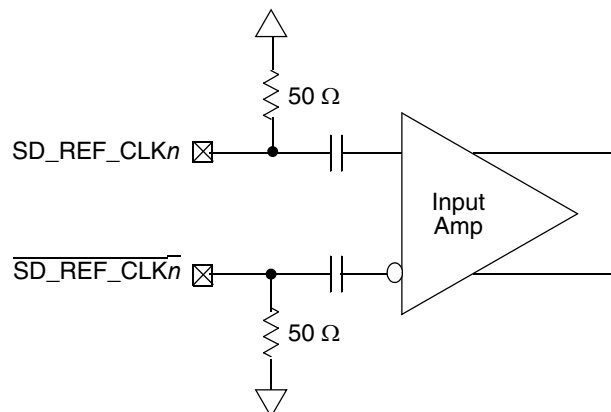

Figure 37. Receiver of SerDes Reference Clocks
- The SD_REF_CLKn and $\overline{SD_REF_CLKn}$ are internally AC-coupled differential inputs as shown in Figure 37. Each differential clock input (SD_REF_CLKn or $\overline{SD_REF_CLKn}$) has on-chip 50- Ω termination to SGND followed by on-chip AC-coupling.